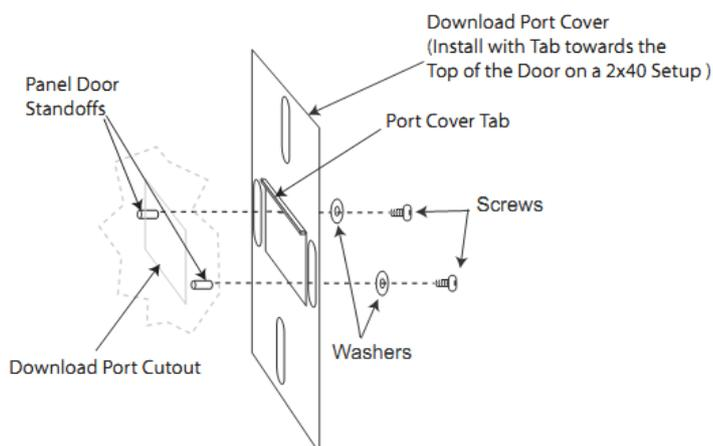

Figure 1 – Fitting the new download port cover
3. Fit the new download port cover as shown in Figure 1. The tab on the cover must be facing the panel door and positioned towards the top of the panel door.